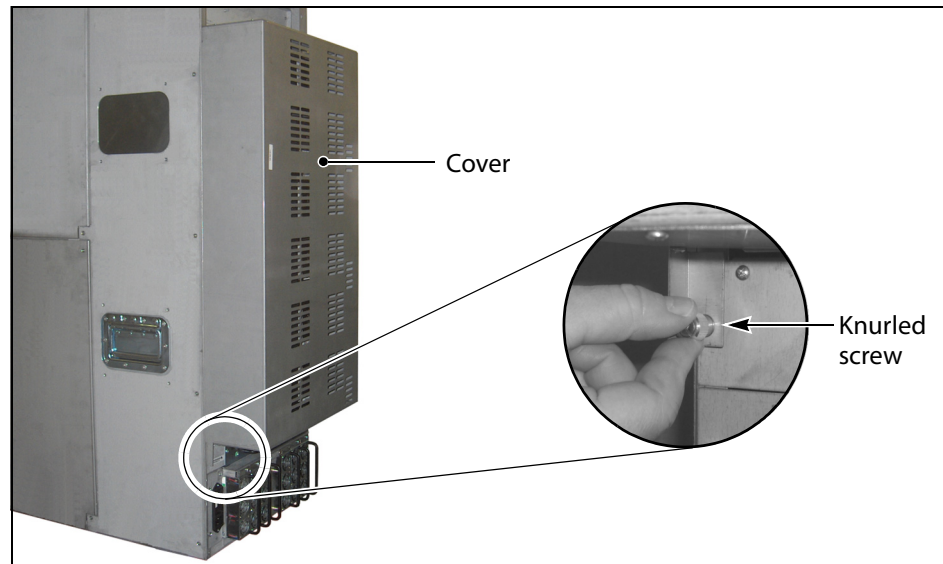

Figure 4 The rear panel cover and screws (T380 shown).
1. From the rear of the library, locate the two knurled screws securing the bottom of the cover to either side of the chassis (Figure 4).